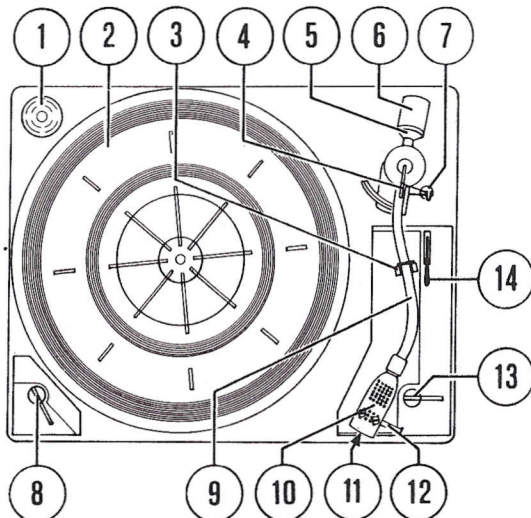

Fig. 1. *Betjeningsorganer*
1.1 Betjeningsorganer (fig. 1)
1.1 Operating controls (fig. 1)